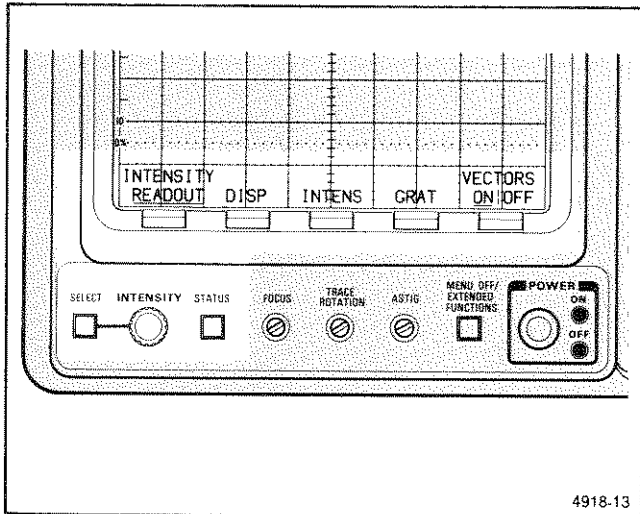

Figure 4-3. SELECT Menu and Menu Control buttons.
4. Press SELECT button to display the INTENSITY control menu. Figure 4-3 illustrates the SELECT Menu entries and the position of the Menu Control buttons in case the menu is not visible.